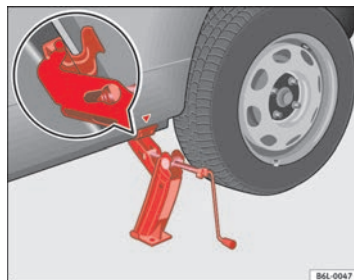

Fig. 134 Fitting the jack
- Align the jack so that the arm of the jack fits around the rib under the door sill and the movable base plate of the jack is flat on the ground ⇒ fig. 134.